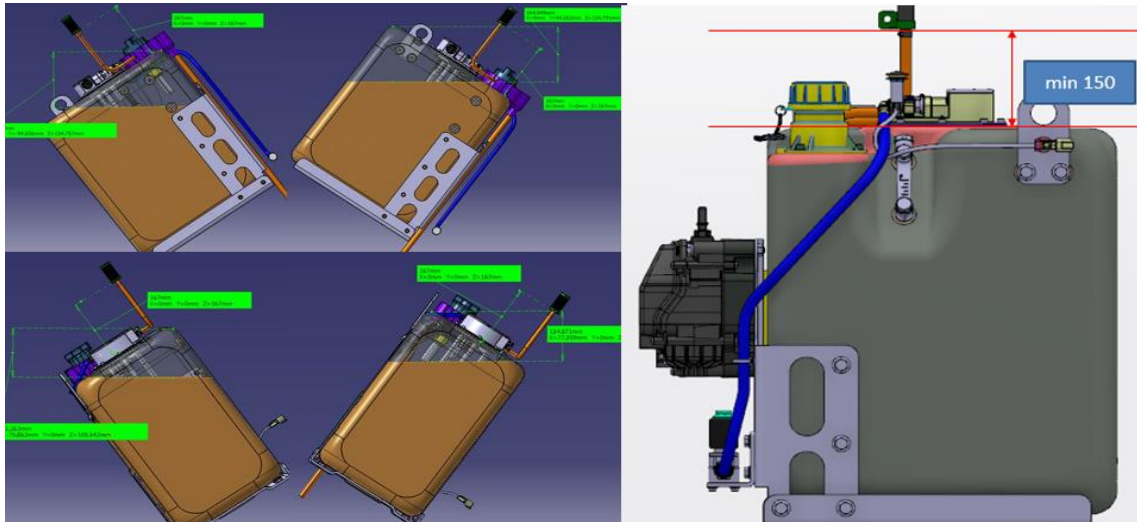

Figure 4-AD. Position of breather filter
- Environmental agencies (EPA, EU and so on) regulate SCR systems to ensure that DEF does not freeze or refreeze during operation. For example, EPA stipulates the defreeze time and test mode, as shown in Figure 4-AE.